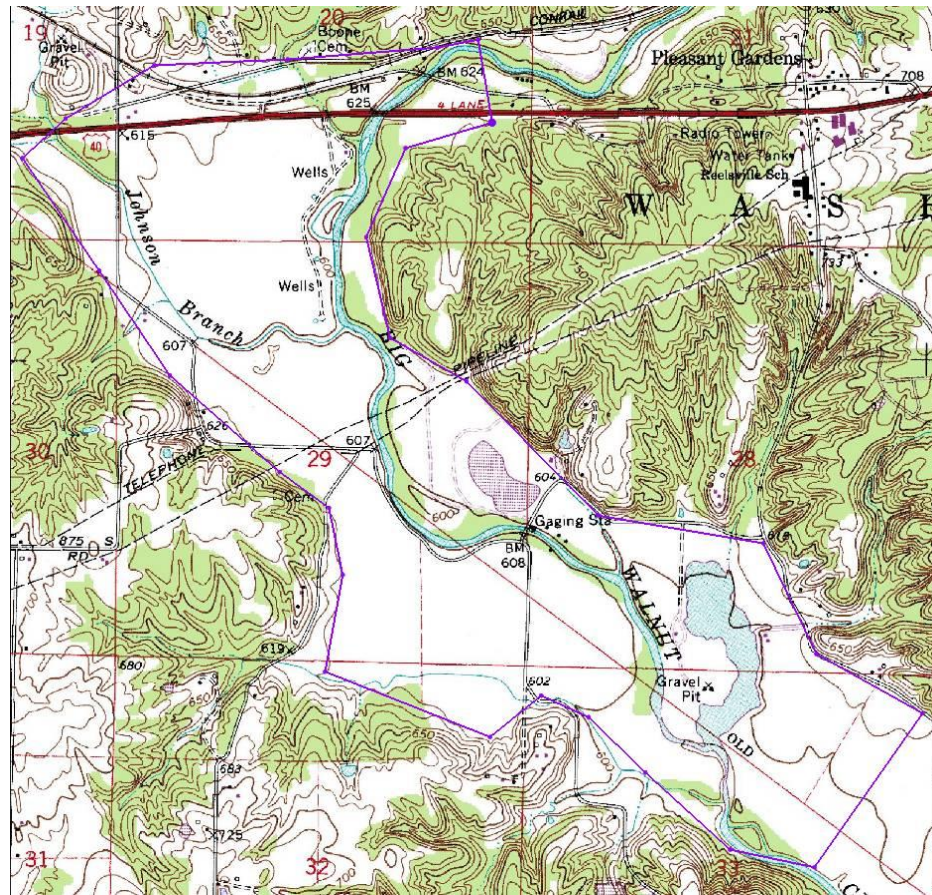

Figure 2 Boundary arcs
It is now possible to enter the model data. First, the user will create a MODAEM conceptual model. Then the user will create coverages to define the boundary conditions and aquifer properties. The boundary of the model is shown in Figure 2.
13. Click out the boundary as shown in Figure 2 below.